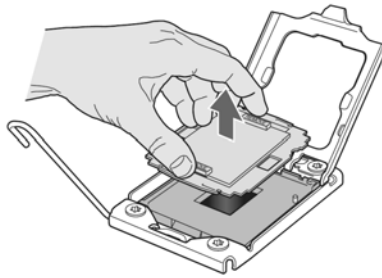

Figure 14. Removing the Processor Socket Protective Cover
7. Remove processor socket protective cover: Grasp the socket protective cover by the two tabs and carefully lift it straight up as shown in Figure 14 and save the protective cover.